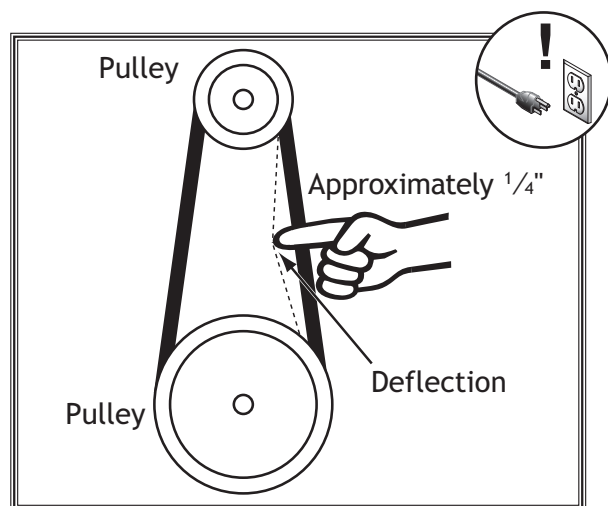

Figure 44. Checking belt tension.
3. Check belt condition and deflection. The belt is properly tensioned if there is approximately $\frac{1}{4}$ " deflection. Deflection is checked by pushing belt with moderate pressure, as shown in **Figure 44**, and noting how much it moves.